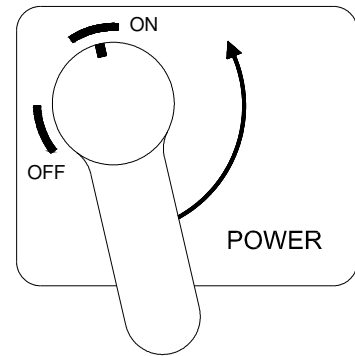

Figure 3-8
3. Turn ON power to the steamer by turning the drain valve lever clockwise (down) to close the drain (see Figure 3-8). The power ON indicator lights and the water reservoir fills.